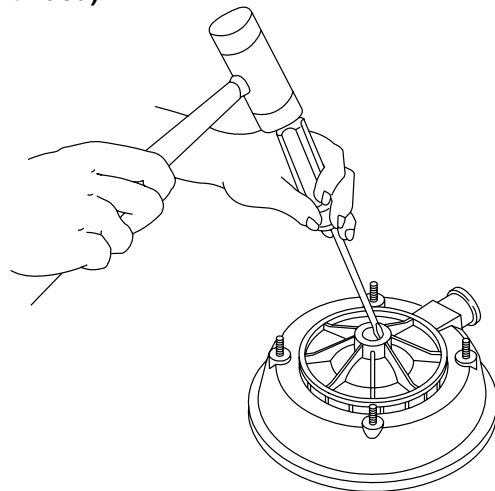

Figure 23 – Tap Out Seal
4. Place pump body half face down on flat surface and tap out stationary half of seal (see Figure 23).